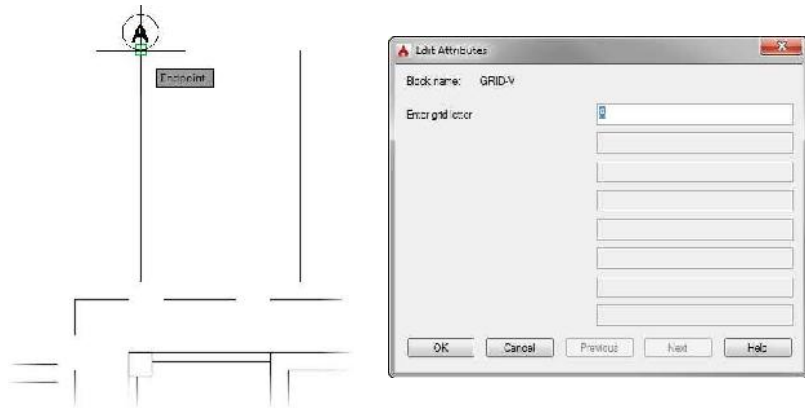

FIGURE 9.9: Choosing the block attribute insertion point (left), and entering values with the Edit Attributes dialog box (right)
5. Click the endpoint of the leftmost vertical gridline in the drawing (see the left image in Figure 9.9).
The Edit Attributes dialog box shown on the right in Figure 9.9 opens after you select an insertion point. Each block attribute prompt is shown along the left side of this dialog box, with the default values for each of those attributes shown along the right side of the dialog box.